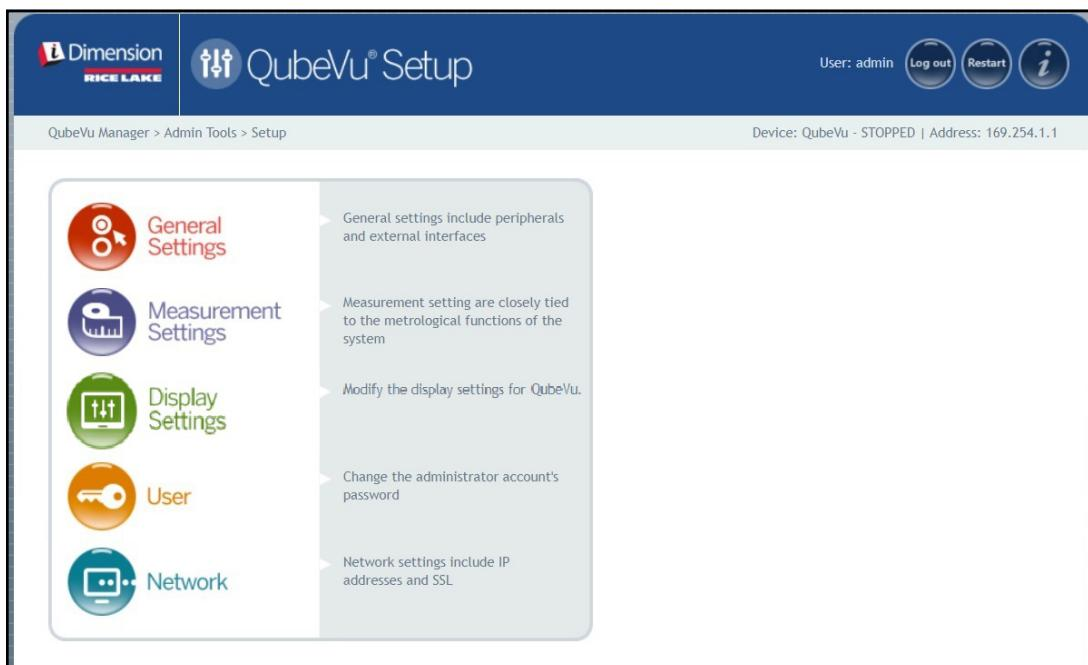

Figure 5-1. Setup Menu
- Select  **General Settings** from the **Setup** menu (Figure 5-1 on page 23). The **General Settings** menu displays.
- Select  **Measurement Settings** from the **Setup** menu (Figure 5-1 on page 23). The **Measurement Settings** menu displays.